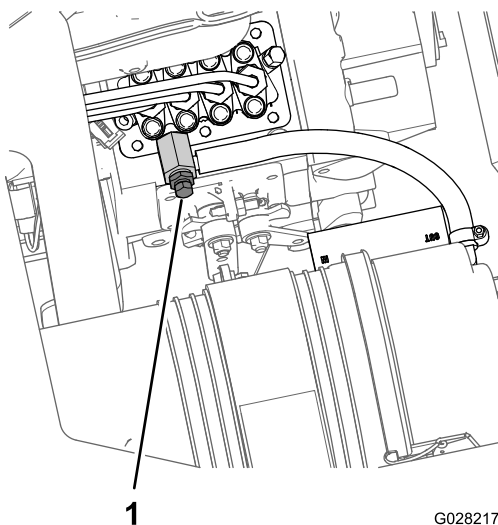

Figure 74
8. Align the drain pan under the fuel-injection pump portion of the engine (Figure 74).
9. Open the air-bleed screw at the fuel-injection pump (Figure 74).
11. Leave the key in the ON position until a solid stream of fuel flows out around the bleed screw (Figure 74).
12. Tighten the bleed screw (Figure 74) and turn the key to the OFF position.